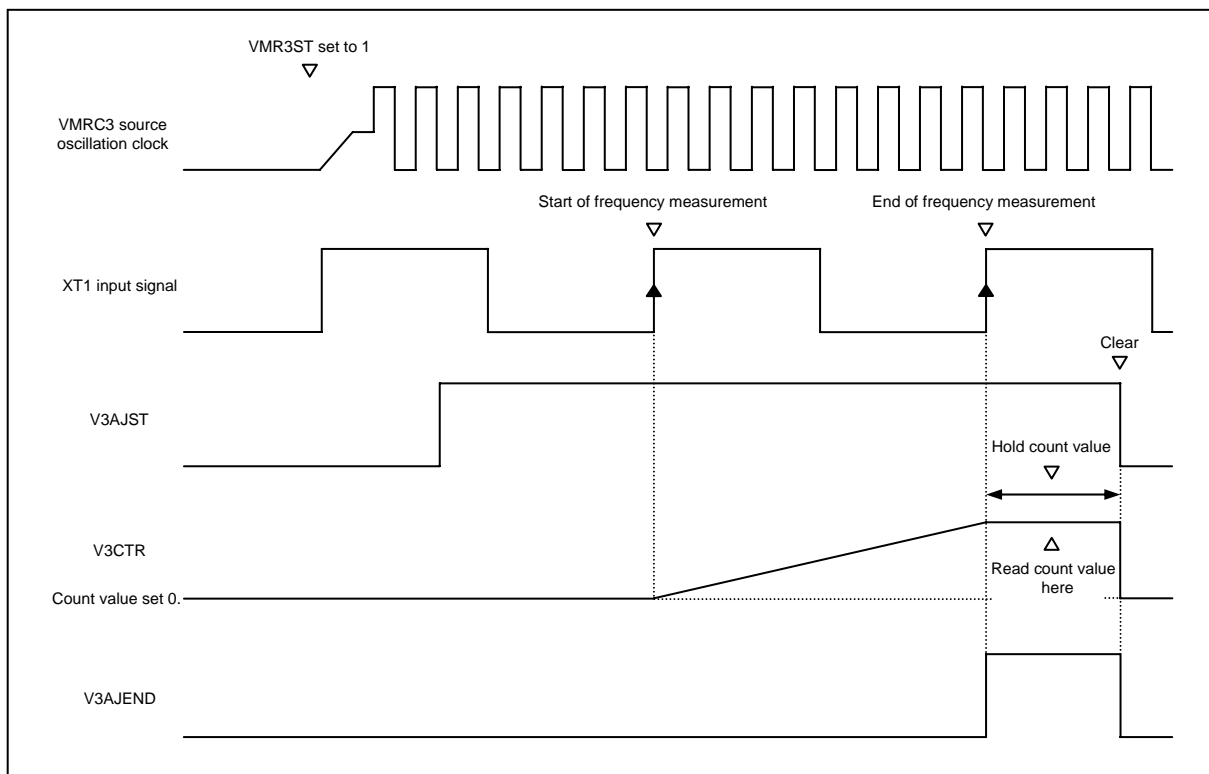

Figure 4.3.2 VMRC3 Frequency Measurement Timing Chart
- 2) When V3AJST is set to 1 after VMRC3 oscillation is started, the counter counts the number of VMRC3 source oscillation clocks generated during 1 period which is determined by the reference input signals from the XT1 pin (see Figure 4.3.2 for details).
- 3) When V3AJST is set to 1 after VMRC3 oscillation is started, the counter counts the number of VMRC3 source oscillation clocks generated during 1 cycle which is determined by the reference input signals from the XT1 pin (see Figure 4.3.2 for details).